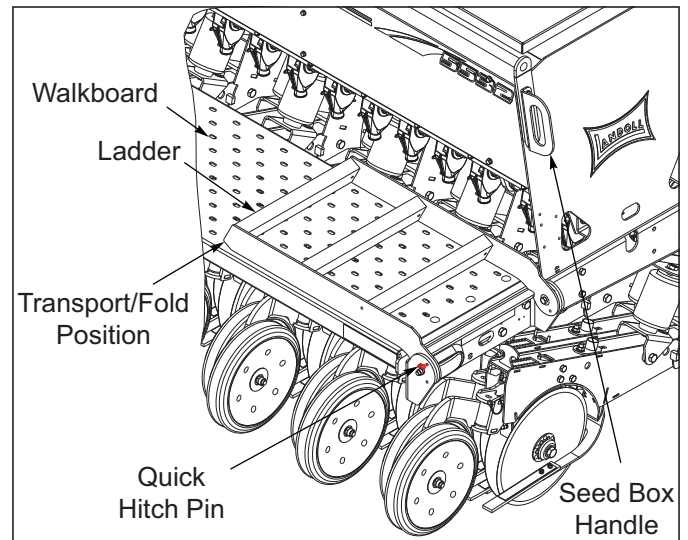

Figure 4-39: Ladder Location During Transport/Planting
- a. The ladder should be in the raised position (laying across the top of the walkboard) and secured with the pin *See Figure 4-39*.